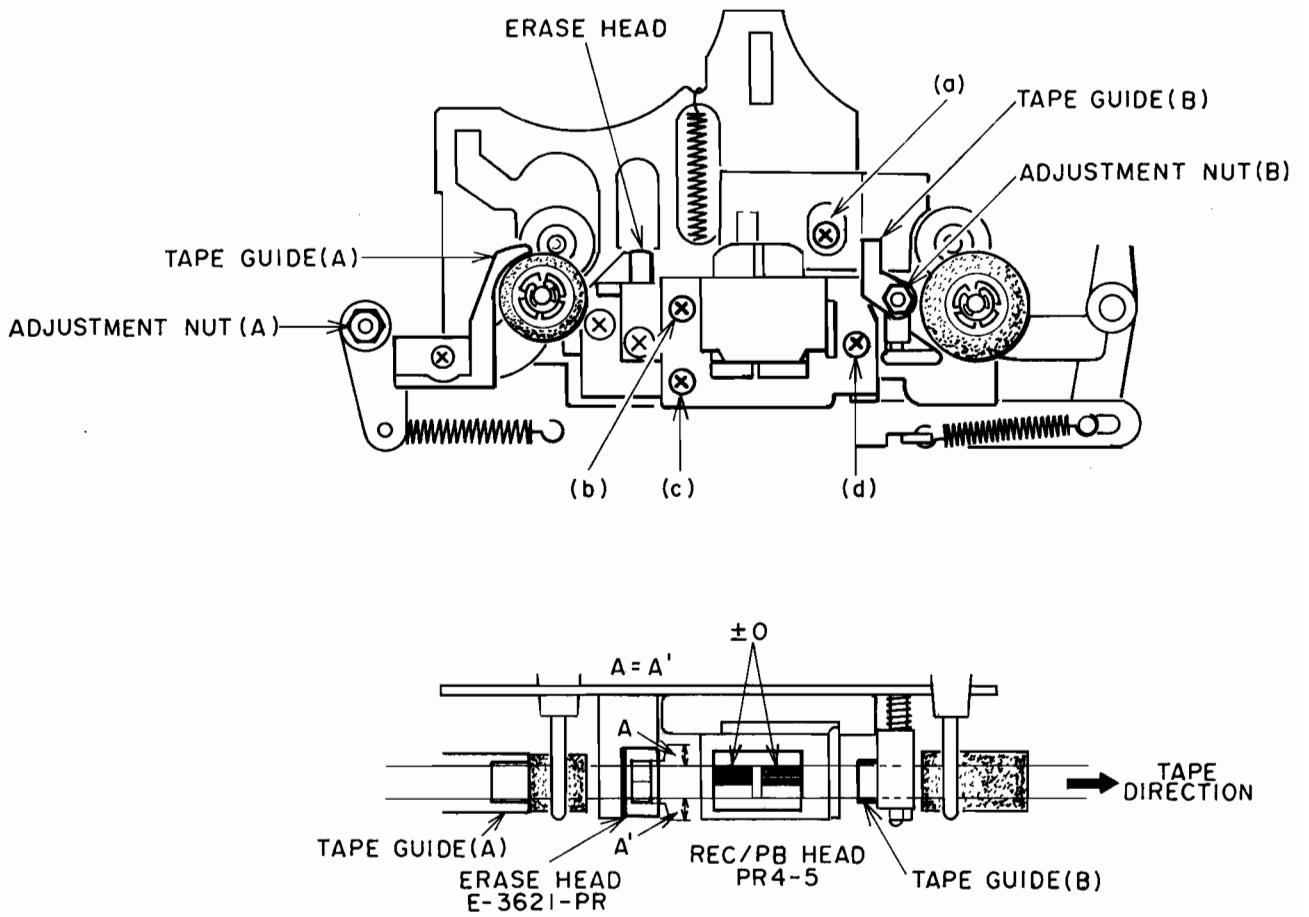

Fig. 8
2. Adjust the tape guide (A) so that the parts of the erase head coming out of both sides of the tape (A and A' in Fig. 8) will be equal. For the adjustment, use the adjustment nut (A).
- 3) Adjust the tape guide (B) so that the tape runs smoothly and is not hitched by the tape guide. For the adjustment, use the adjustment nut (B).
- 4) After adjustment, paint-lock the adjustment nuts (A) and (B).